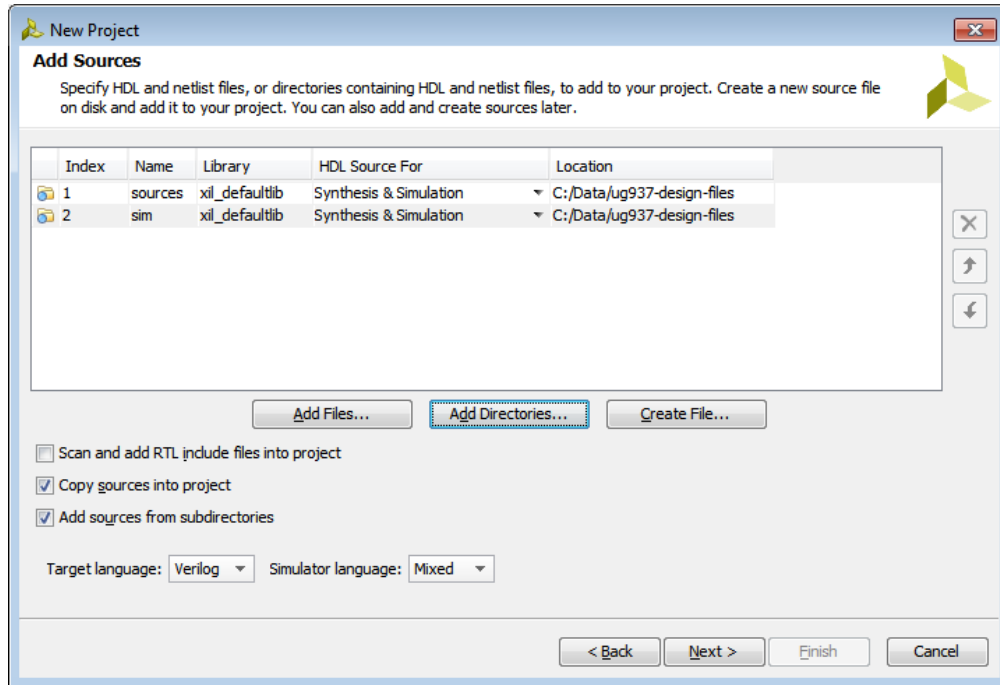

Figure 4: Add Sources
7. Set the **Simulator Language** to **Mixed** as seen in Figure 4.